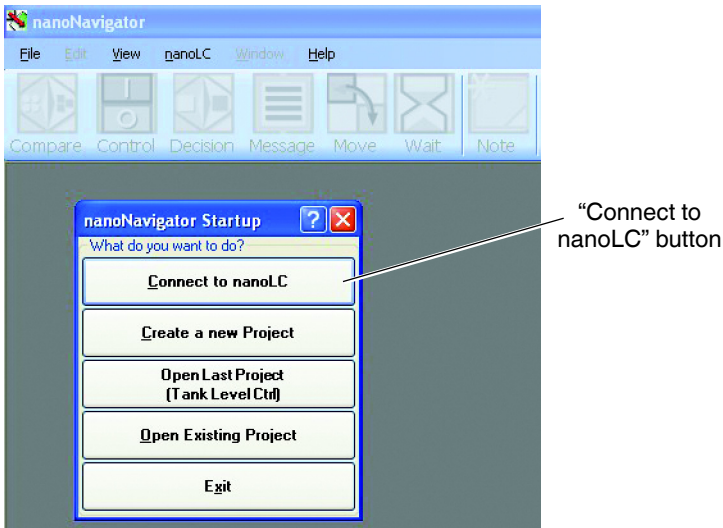

Figure 1-4 Opening view of nanoNavigator
3. Click the “Start... All Programs... Phoenix Contact... nanoNavigator” button to open the “nanoNavigator Startup” window (Figure 1-4).